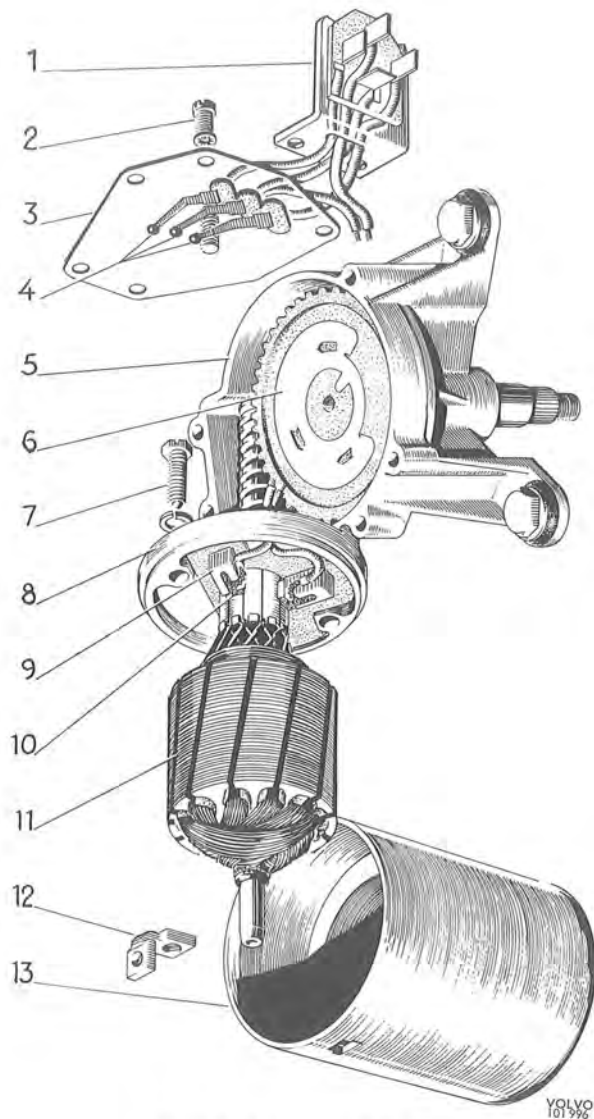

Fig. 3-83. Windshield wiper motor
Release the five screws (2, Fig. 3-83) and bend the cover (3) out of the way, then press out the plastic gear wheel. Remove the screws (7) and pull out the stator. Remove the screws for the negative brush and the washer on the ball bearing axial lock. Remove the washer for the axial lock. Move the brushes aside and carefully pull out the rotor. Take great care with the brushes since the ball bearing has a larger diameter than the commutator.